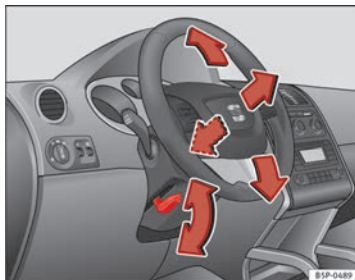

Fig. 133 Adjusting the steering wheel position
- Push the lever under the steering column ⇒ Fig. 133 down ⇒ ⚠.